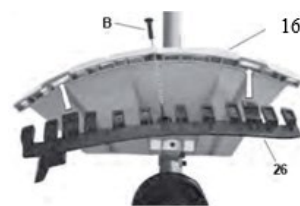

Fig.3-3
1. When using the nylon head, the additional guard must always be installed with the cutting blade. (Fig.3-3, Fig.3-4)
- Fix the additional protection (26) with the screw (B). (Fig. 3-3)
- Unscrew the screw (B); (Figure 3-3).